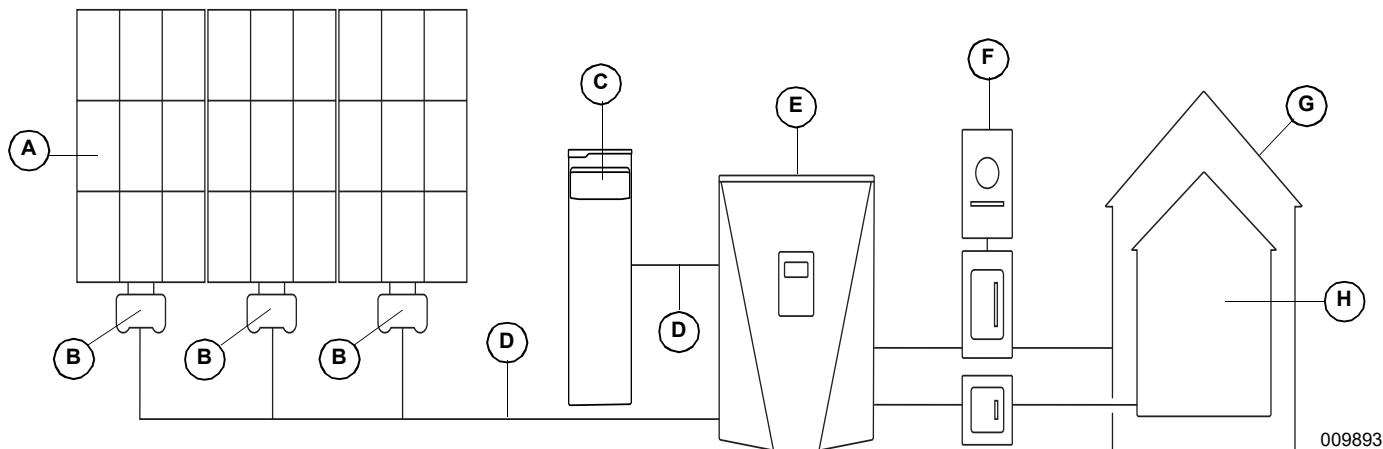

Figure 2-3. Generac PWRcell System Example
In **Figure 2-3** PWRcell inverter (E) is directly connected to PV Link optimizers (B) and PWRcell battery (C) on DC (REbus) lines (D). To the right of the inverter are AC lines: 120/240 VAC for grid and home loads (G), and protected loads (H) support.